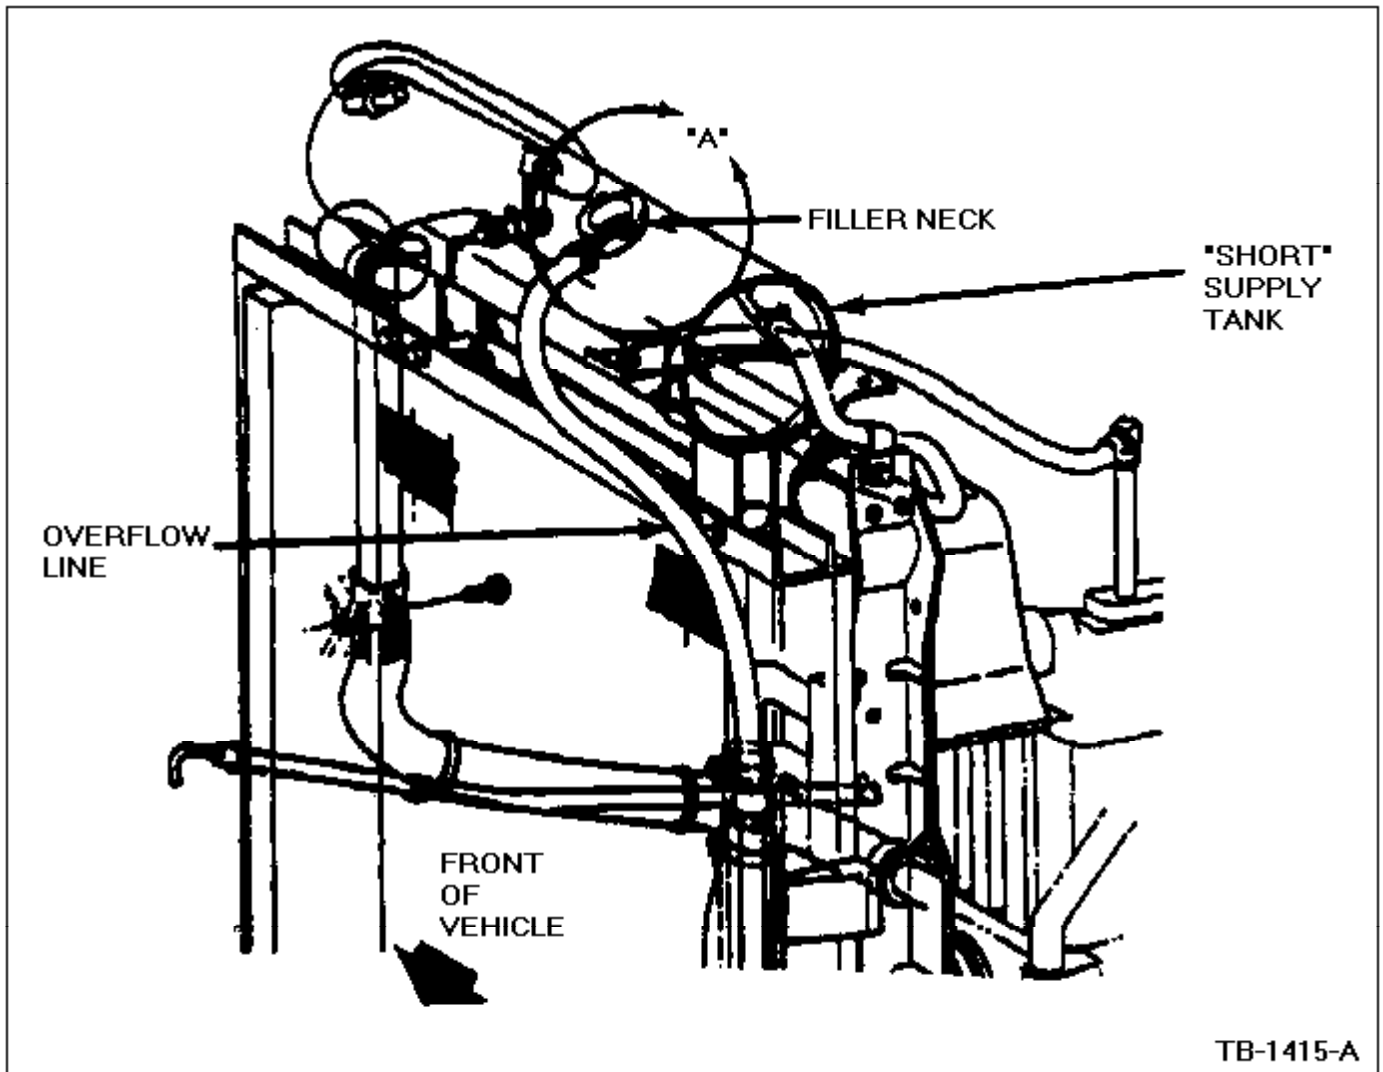

Figure 1 - Article 89-25-20
1. Sweat off the filler neck assembly from the supply tank, Figure 1.